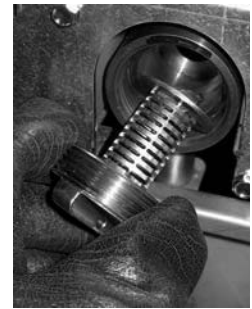

Figure 2
2. Use a small brush to clear debris from the attached screen (**Figure 2**).